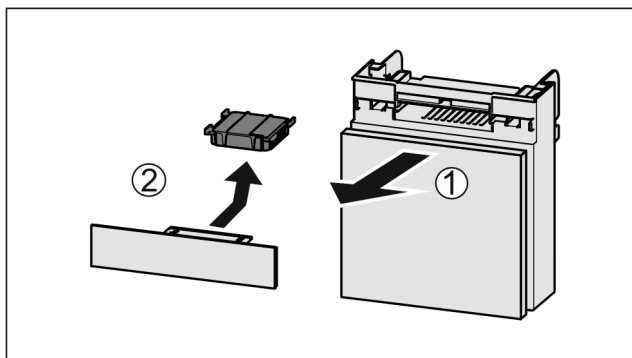

Fig. 202
- Pull out the compartment Fig. 202 (1).
- Remove the carbon filter Fig. 202 (2).